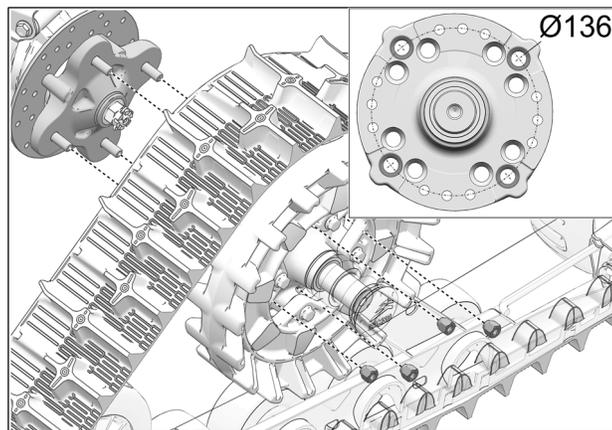

Fig. 9
9. Secure undercarriage to rear hub using the vehicle's own lug nuts. Use bolt circle $\text{Ø}136 \text{ mm}$. See Fig. 9